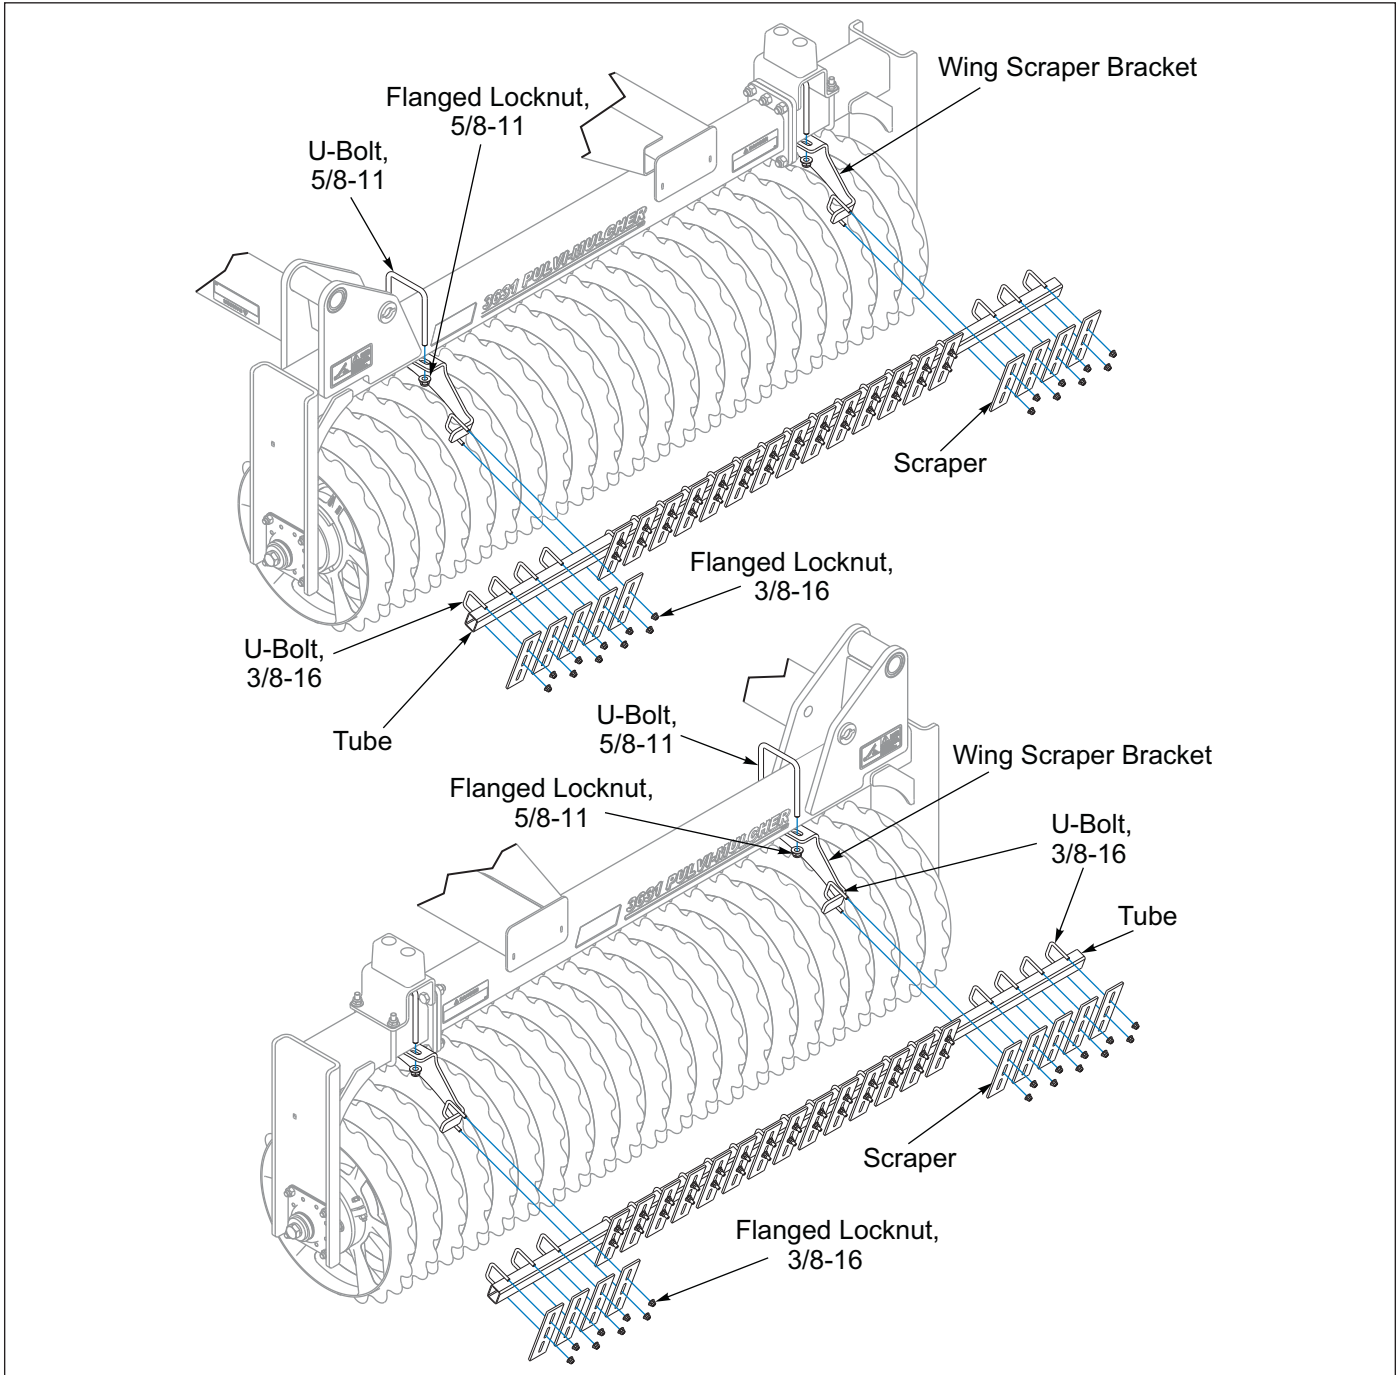

Figure 2-68: Wing Rear Scraper Installation
1. With the Wing Rollers on level ground, place the 5/8-11 U-bolts over the frame tube and through the Wing Scraper Brackets, secure with Flanged Locknut. See Figures 2-68 and 2-69.